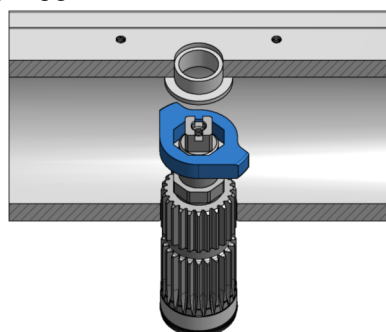
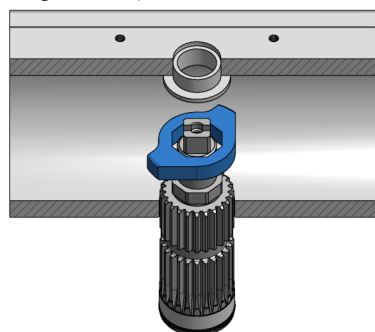

Fig. 9.4
Fig. 9.5
4. Slide the top half of the pinion into the bottom of the actuator, orient the cam on top of the pinion according to desired operating direction (see Fig 9.4 and 9.5 below) then slide the pinion the rest of the way through the body until it stops. (see pg.11 for more information about possible configurations).
Both illustrations above show standard orientation of the cam/pinion at the actuator fail position (the pinion cam has been colored blue for contrast). In fig. 9.4 the cam configuration shown is intended for fail closed applications. In Fig. 9.5 the configuration shown is intended for fail open applications. It is important to note that the above cutaway view assumes that the stops and air ports of the actuator are facing the viewer. Once installed, look down the bore of the actuator and ensure that the cam is aligned properly with both the top of the pinion and the pinion drive in both the closed and open positions.